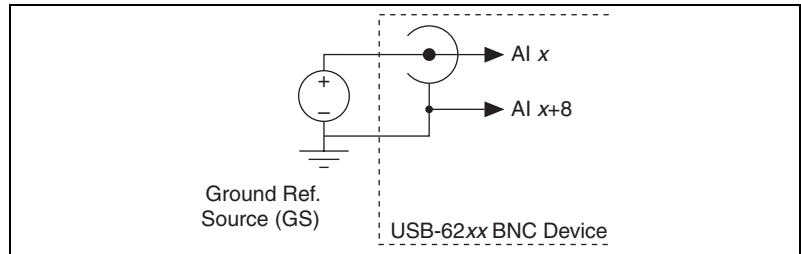

Figure A-22. Single-Ended Channels
- Single-Ended Mode**—For each BNC connector that you use for two single-ended channels, set the source type switch to the GS position. This setting disconnects the built-in ground reference resistor from the negative terminal of the BNC connector, allowing the connector to be used as a single-ended channel, as shown in Figure A-22.